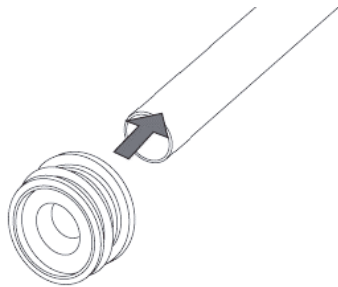
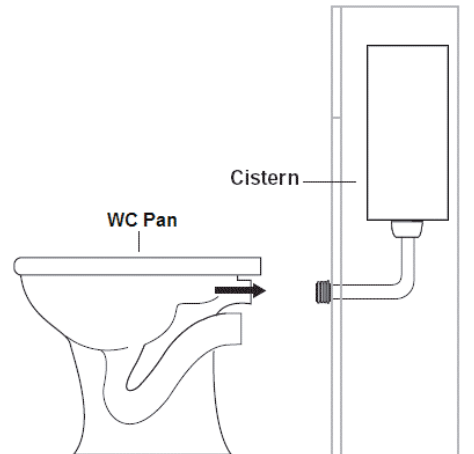

Fig. 12
Fig. 13
10. Fit the front panel onto the WC unit (if applicable). Push the flush pipe sealing washer (L) onto the end of the flush pipe (F). (See **Fig. 12**). Push the pan back onto the flush pipe. (See **Fig. 13**).